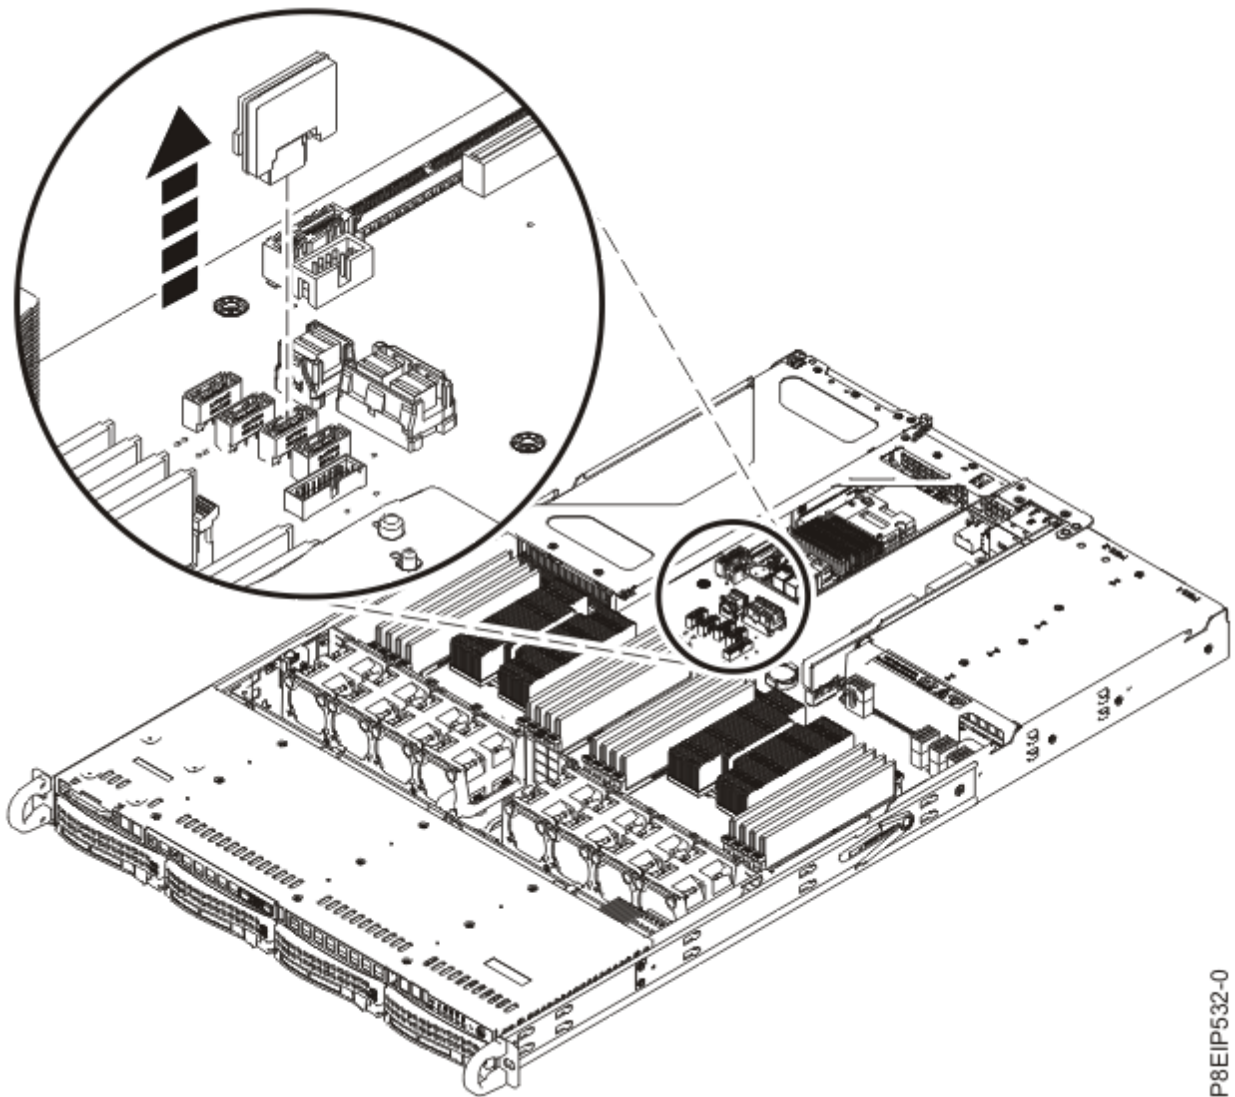

Figure 9. Removing a DOM
2. Remove the DOM from the system backplane as shown in Figure 9 on page 13.